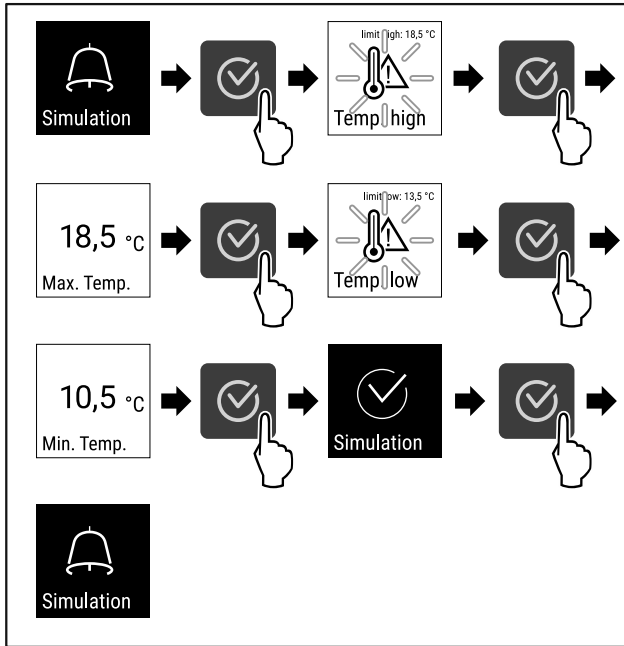

Fig. 124
- ▶ Complete steps (see Fig. 124) .